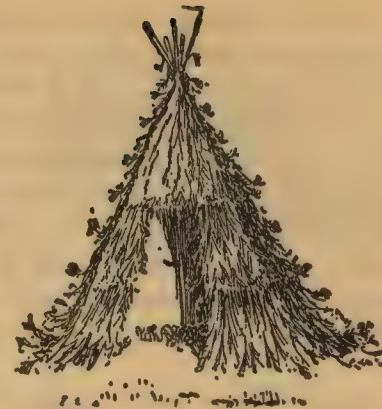

FIG. 53.
***The Wigwam.***—This shelter (Fig. 53), quickly and easily as it may be made, is one of the best. Its steep sides will stand a heavy rain without wetting through, and if well made the camp will be